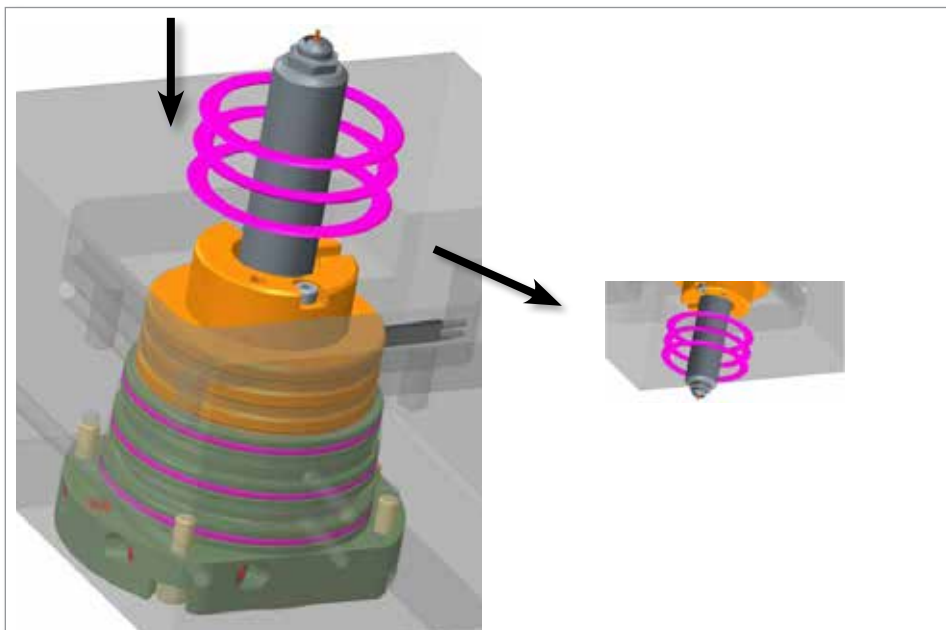

Figure 11-24 Stack disc springs in series
5. Stack the disc springs in series over the retainer. See Figure 11-24.